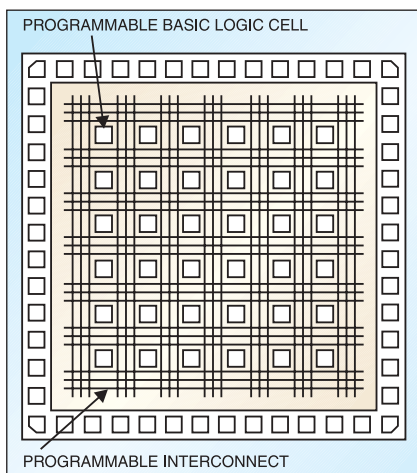

Fig. 5: A field-programmable gate array (FPGA) die
- An FPGA die is shown in Fig. 5.